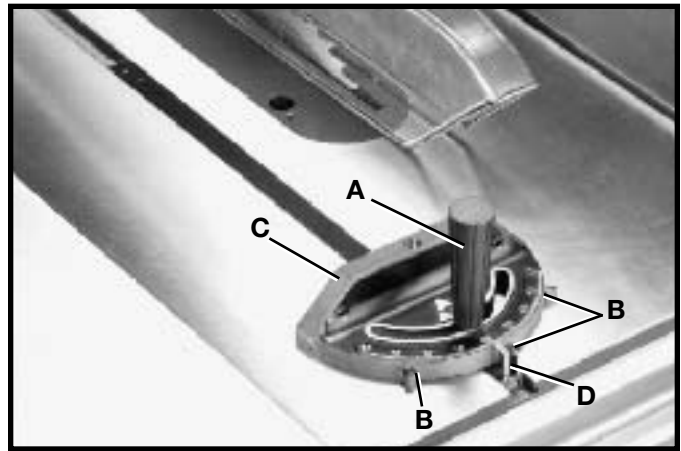

Fig. 69
The miter gage is equipped with adjustable index stops at 90 degrees and 45 degrees right and left. Adjustment to the index stops can be made by tightening or loosening the three adjusting screws (B) Fig. 69.
To rotate the miter gage, loosen lock knob (A) Fig. 69, and move the body of the miter gage (C), to the desired angle.
The miter gage body will stop at 90 degrees and 45 degrees both right and left. To rotate the miter gage body past these points, the stop link (D) Fig. 69, must be moved up and out of the way.